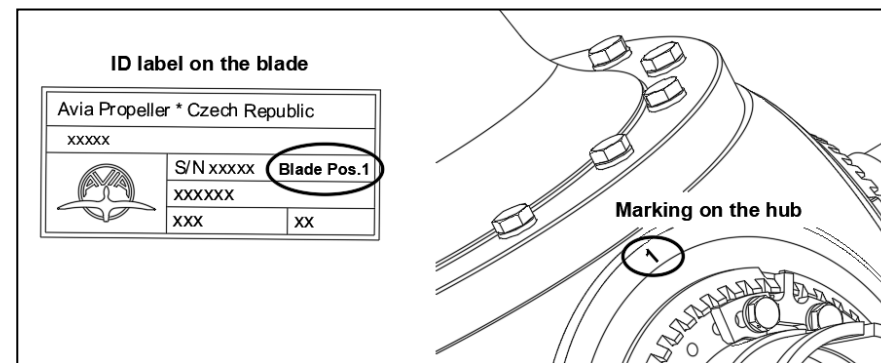

FIGURE 5-1
- A. Observe the label located on the blade. When installing the blade into the hub, make sure that position number on the label corresponds with the number stamped on the hub arm, at where the blade will be installed. See Figure 5-1.